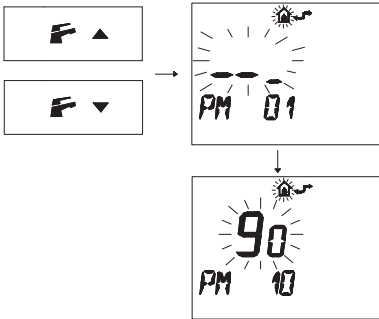

Fig. 7.37
- Press buttons **F**▼ or **F**▲ to display the "PM10" program for selecting the ignition frequency (Fig. 7.37).
In Fig. 7.37 a SET programmed at **90** is displayed corresponding to a re-ignition time of about 3 minutes.